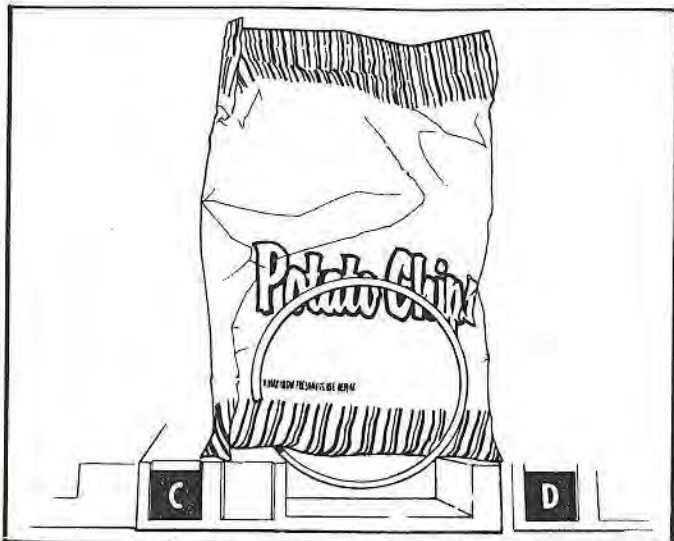
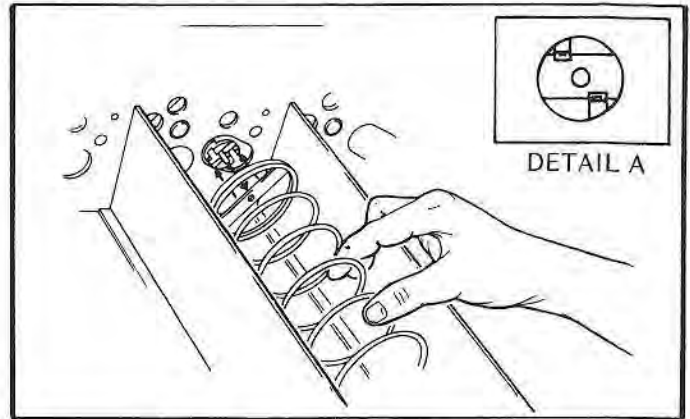
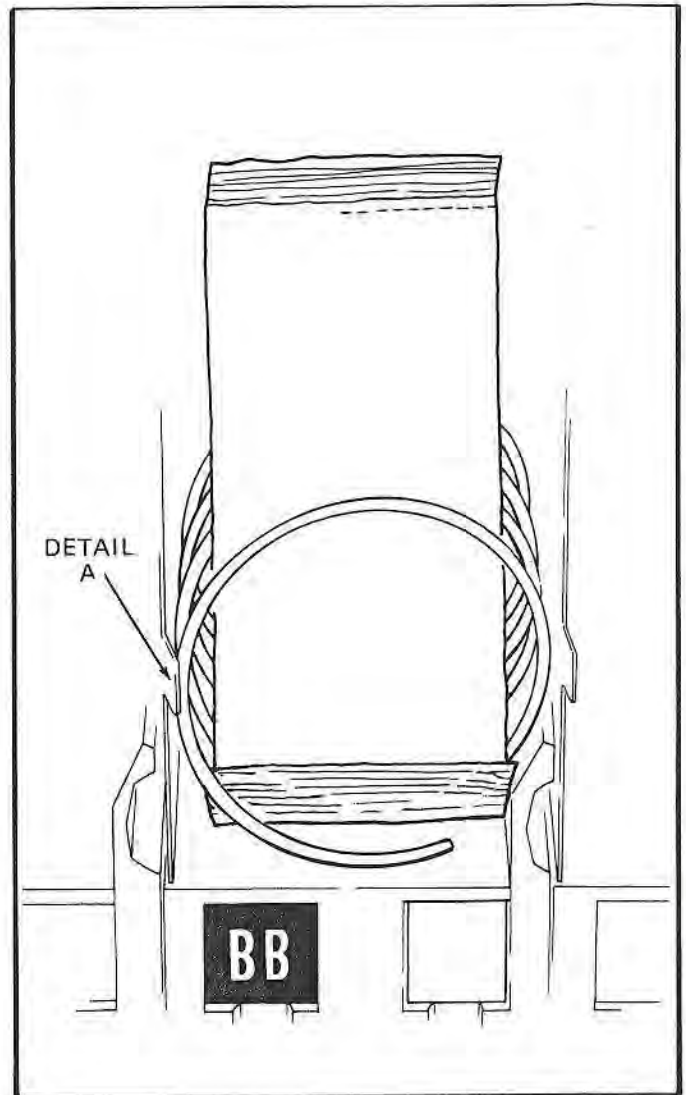

Figure 2. PLACEMENT OF PRODUCT ON MAIN PRODUCT SNACK SHELVES AND FRONT END POSITION OF SPIRAL.
Figure 3. REMOVING AND INSTALLING SPIRAL.
Figure 5. PLACEMENT OF PRODUCT ON MAIN PRODUCT CANDY SHELVES AND FRONT END POSITION OF SPIRAL.
**IMPORTANT:** Product must not be forced into the spiral spaces but should fit freely. If the product is too tight, use a larger pitch spiral. The bottom of the product should be placed on top of the spiral wire that rests on the shelf surface (see Figure 2). The width of the product must be greater than the diameter of the snack spiral. If it is smaller, the product may fall through when it is in the front, ready to vend position.
5. **REMOVAL OF SPIRAL:** To remove a spiral, grasp the spiral near the rear of the shelf and pull forward. To install a spiral, align the hole in the cross strap, at the rear of spiral, with the motor shaft. (See Figure 3) Be sure the front end of the spiral is positioned properly (with the front end of spiral pointing downward on the left side) (see Figure 2); align strap between retainer tabs on spiral retainer (see Detail A, Figure 3) attached to motor shaft, push spiral to rear until both tabs snap over strap (see Figure 3). Give a light forward pull on front of spiral to check if it is locked in place.
7. **LOADING MAIN PRODUCT CANDY SHELVES:** The 10-selection (candy type) shelves are loaded similar to the 5-selection shelves except that the bottom of the product sits on the shelf in *front* of the spiral wire (see Figure 5) that rests on the shelf. These products must also fit properly in the spiral space; *do not* force product into spiral. These spirals are removed and installed the same as the large spiral (see Figure 3), except that the front end position is different (approximately 5 o'clock) (see Figure 5) and the front left side of the spiral must be behind the small tab located on the left side of the product space side wall (see Figure 5, Detail A).